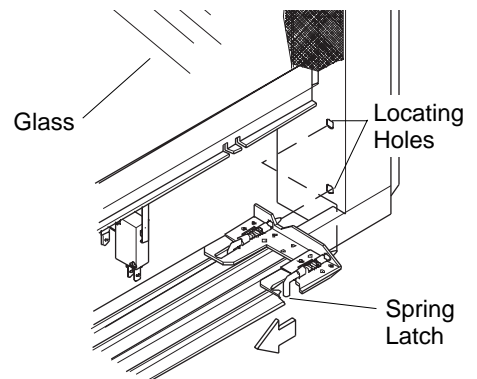

Figure 33 - Removing Louver
1. To remove the louvers, simultaneously pull both top end spring latches towards the center of the appliance until they are disengaged from locating holes. Repeat for bottom end spring latches and pull outward. Reverse the procedure to install louvers back onto the appliance (see Figure 33).